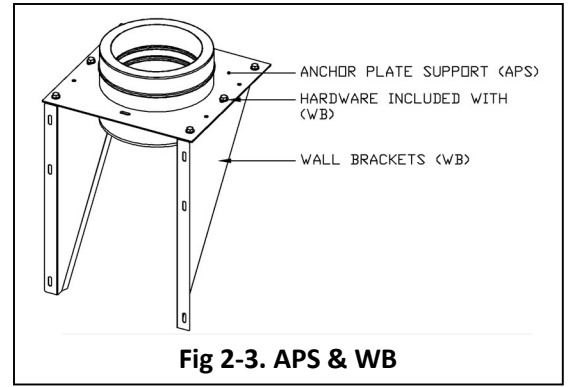

Fig 2-3. APS & WB
The APS is a section of vent that is used to provide vertical support sections and provide an anchor support for horizontal sections. The APS must be anchored with rigid structural members by the installing contractor. The structural project engineer should select support members in accordance with good engineering practice to suit each specific application or follow the guidelines in Figs 2-3 to 2-5. The Anchor Plate Support may only be attached to non-combustible construction such as block, concrete, or steel. **DO NOT ATTACH THE SUPPORT PLATE TO COMBUSTIBLE MATERIALS.** See Table 2-1 for Maximum Support height. It can be supported with standard Wall Brackets (WB) or with field fabricated supports.
To Install (See Fig 2-3):